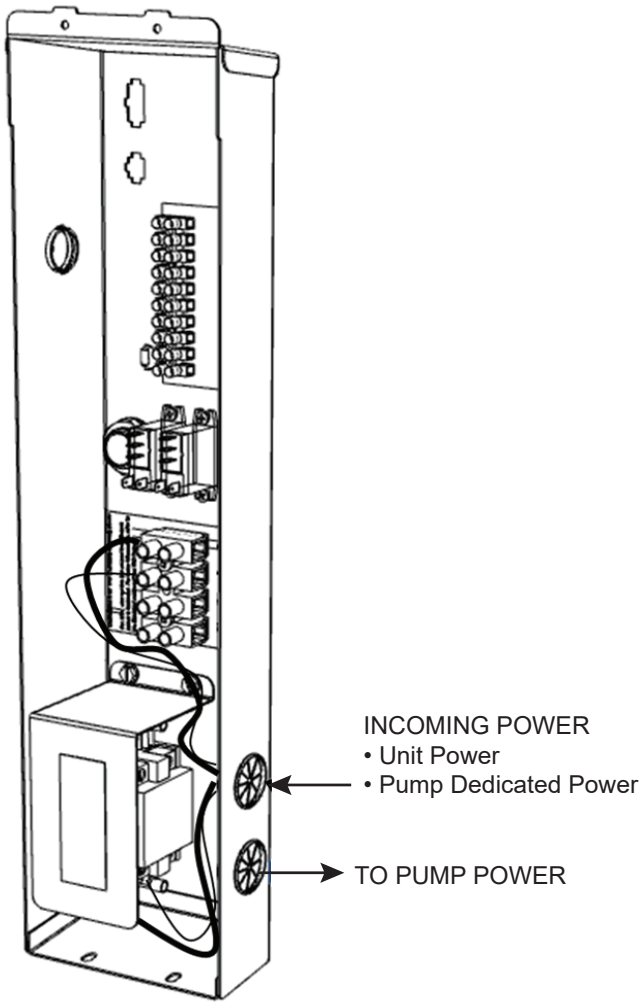

Figure 49. Rear Box Routing Detail
2. Route the wiring as shown in **Figure 49**.